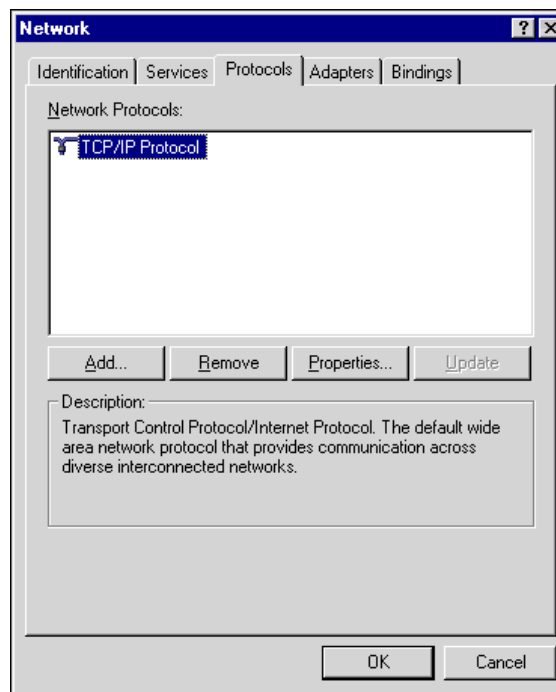

Figure C-0-1: Windows Network dialog, Protocols tab
- 5 Select the **Protocols** tab (Figure C-0-1). If TCP/IP Protocol appears in this list, skip steps 6 and 7.